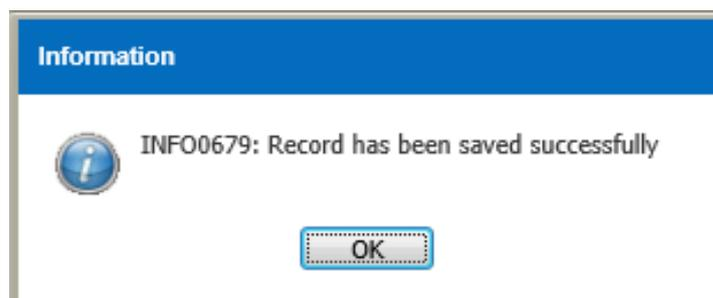

Figure 3.12.2-5 Information Message
- Click on the  button to create new transaction for UOM and fill the transaction as shown on Figure 3.12.2-2